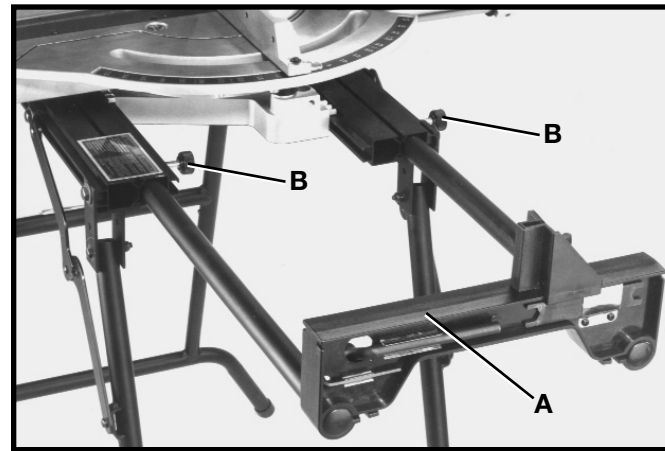

Fig. 52
Table extensions, one of which is shown at (A) Fig. 52, are provided on each end of the saw stand to support extra long workpieces. To move the table extensions, loosen the two lock screws (B), pull out table extension (A) to desired position and tighten lock screws (B). The top surface of the table extension (A) is slightly lower than the saw table and adequately supports just about any size of workpiece that fits into the saw.